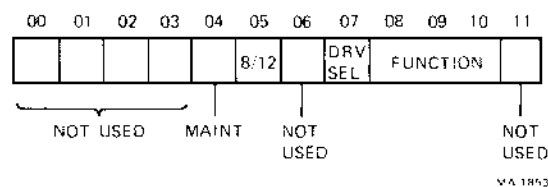

Figure 4-1 LCD Word Format (RX8E)
4.1.2.1 RX8E Load Command (LCD) – 67x1 – This command transfers the contents of the AC to the interface register and clears the AC. The RX02 begins to execute the function specified in AC 8, 9, and 10 on the drive specified by AC 7. A new function cannot be initiated unless the RX02 has completed the previous function. The command word is defined as shown in Figure 4-1. The command word is described in greater detail in Paragraph 4.1.3.1.